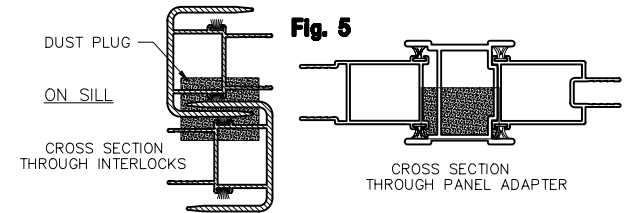

Fig. 5
9. Install stick-on dust plugs at each end of panel interlocks and panel adapter as shown in Fig. 5.